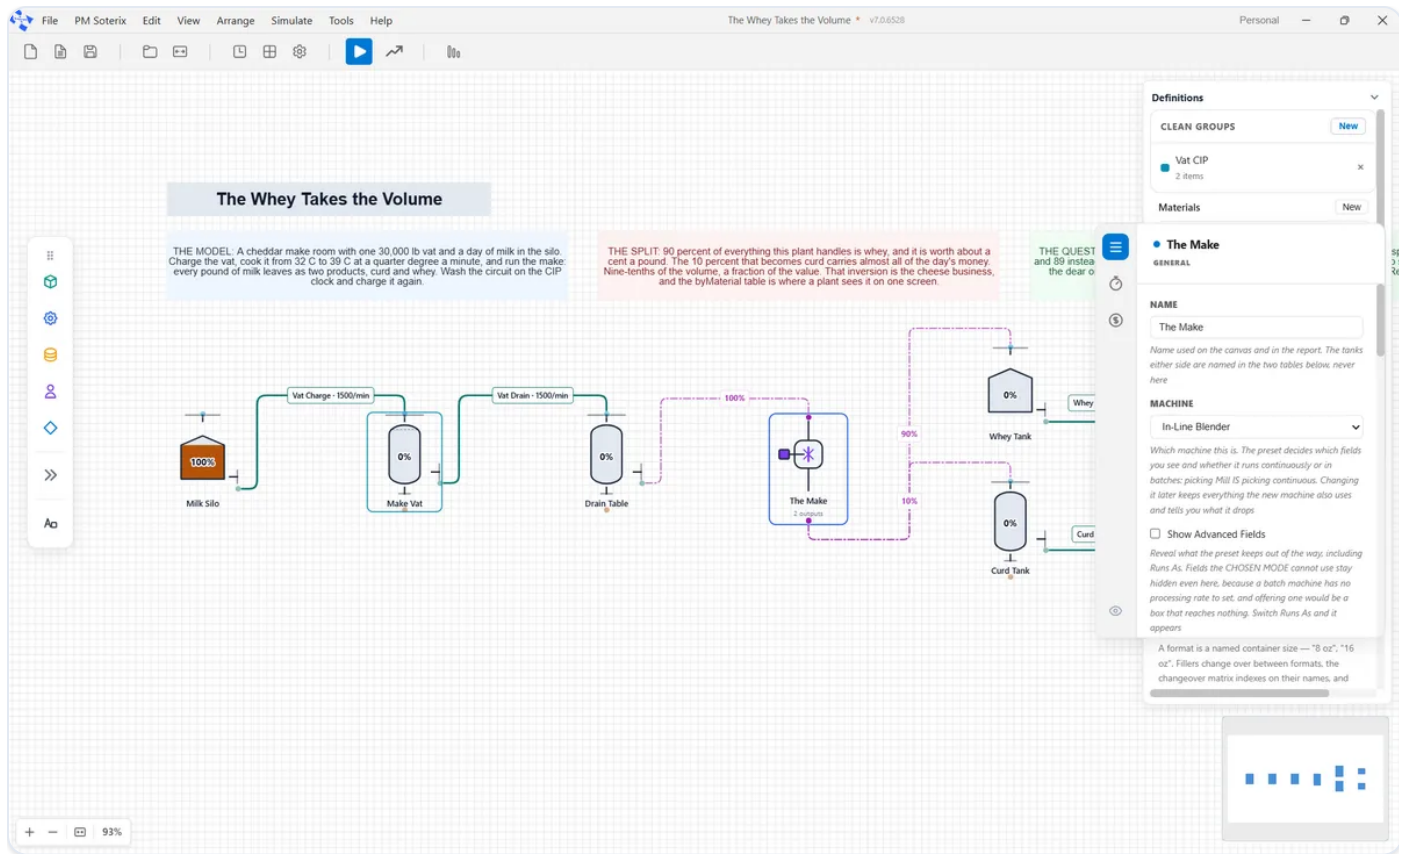

Figure 23. A Unit Operation's settings, taken from The Whey Takes the Volume.
- Figure 23. A Unit Operation's settings, taken from The Whey Takes the Volume.